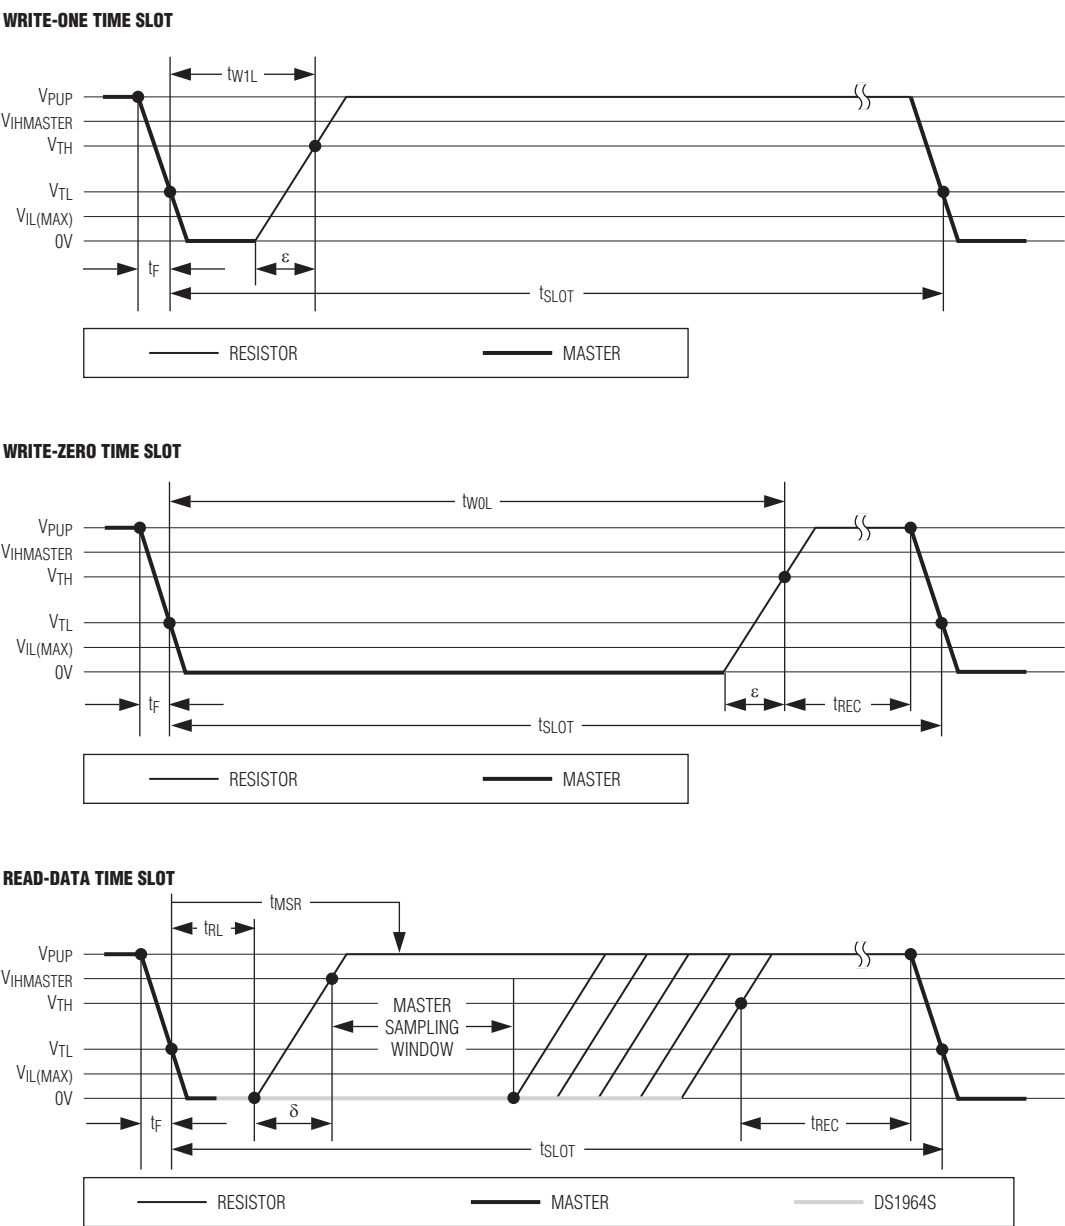

Figure 6. Read/Write Timing Diagrams
**Note 16:** ε in Figure 6 represents the time required for the pullup circuitry to pull the voltage on IO up from VIL to VTH. The actual maximum duration for the master to pull the line low is tW1L(MAX) + tF - ε and tW0L(MAX) + tF - ε, respectively.
**Note 17:** δ in Figure 6 represents the time required for the pullup circuitry to pull the voltage on IO up from VIL to the input-high threshold of the bus master. The actual maximum duration for the master to pull the line low is tRL(MAX) + tF.
Data communication with the the DS1964S takes place in time slots that carry a single bit each. Write time slots transport data from bus master to slave. Read time slots transfer data from slave to master. Figure 6 illustrates the definitions of the write and read time slots.